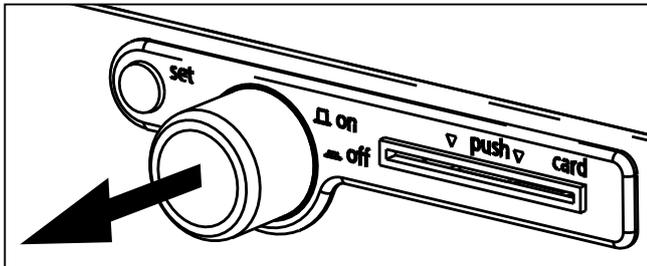

Fig. 14 Switching on the constant climate chamber
- ▶ Switching on: press the main switch so that it comes out of the appliance (Fig. 14).